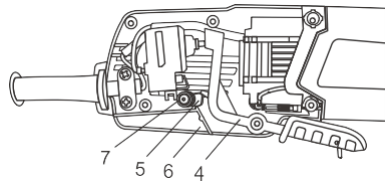

Fig. 9
6. Remove the switch paddle arm (4) by lifting it upward (Fig. 9).
7. Remove the lock-on button (5) by lifting it out of the left half of the handle (6).
- NOTE: Be careful not to lose the spring (7) that is on the lock-on toggle.